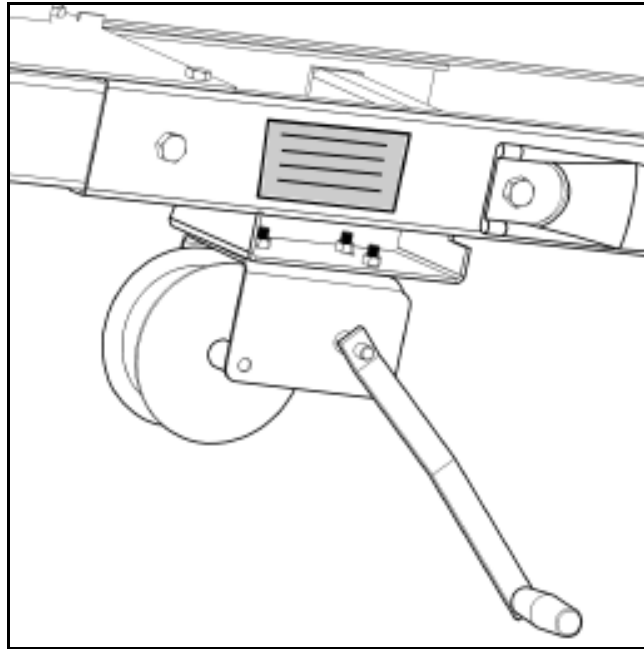

Figure 3.16
7. Attach winch decal (#17109) provided on auger frame in a visible location close to the winch (Figure 3.16).